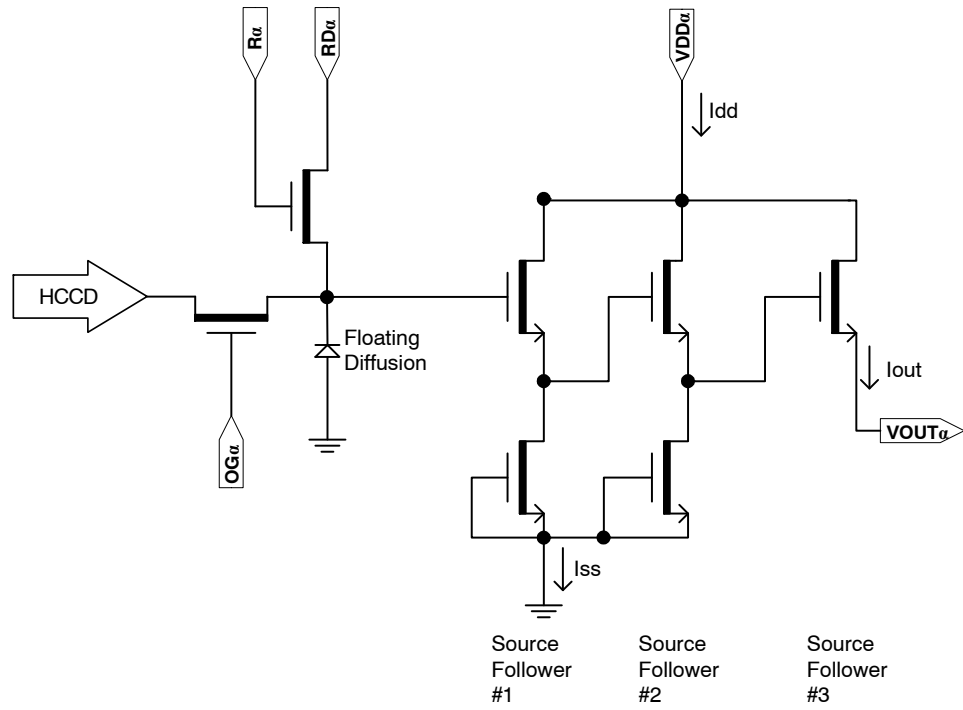

Figure 18. Output Amplifier
2. The maximum DC current is for one output. I_{dd} = I_{out} + I_{ss}. See Figure 18.